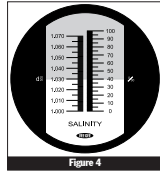
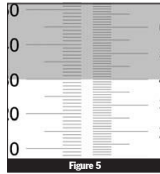

Figure 4
Figure 5
4. When the refractometer scale is viewed through the eyepiece, the upper field of view will be seen as blue and the lower field will be seen as white (Figure 4). The reading is taken at the point where the boundary line of the blue and white fields crosses the scale (Figure 5). The value (either permillage or specific gravity) is the salinity level of water.